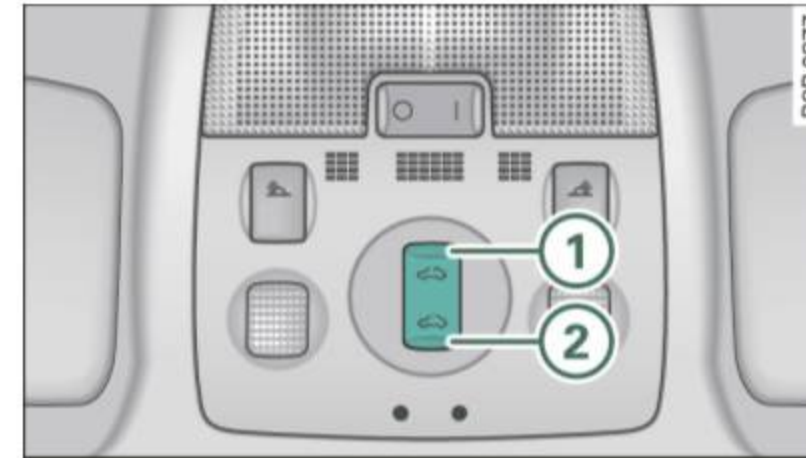

Fig. 42 Section of the roof liner Toggle switch for the panoramic sliding sunroof
The panoramic sliding sunroof is operated with the toggle switch ⇒ fig. 42 when the ignition is on.
- Tap the switch ① ⇒ fig. 42 briefly, and the roof lifts automatically (pop-up position).
- Tap the switch ① ⇒ fig. 42 briefly, and the roof moves to the **lift position**.
- Tap the switch ① briefly a second time, and the roof moves to the **low wind noise comfort position**.
- Press the switch ① until the roof is **fully** open. In this position increased wind noise may occur. ▶
- Press the switch ① ⇒ page 51, fig. 42, starting from the “lift position” until the roof has reached the desired position.
- Press the switch ② ⇒ page 51, fig. 42 until the roof is completely closed ⇒ ⚠.
- Press the switch ② ⇒ page 51, fig. 42 until the roof has reached the desired position ⇒ ⚠. If the roof is almost closed and you interrupt the operation, the roof opens automatically to a minimum setting; this is the smallest possible opening that can be set.